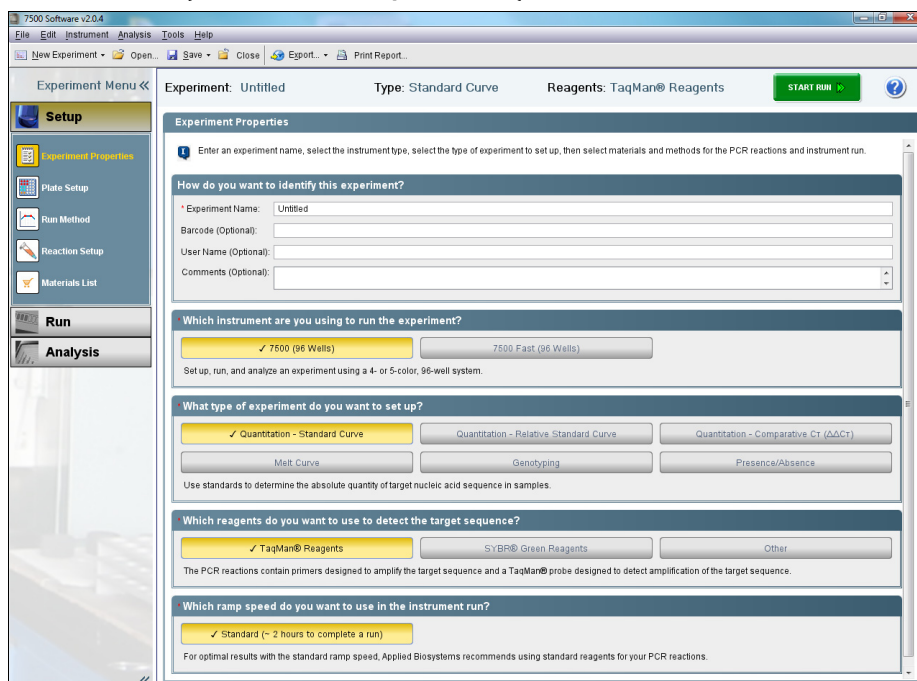

Figure 1. Experimental properties.
2. Under “Setup”, select the “Experimental Properties” menu (Figure 1).